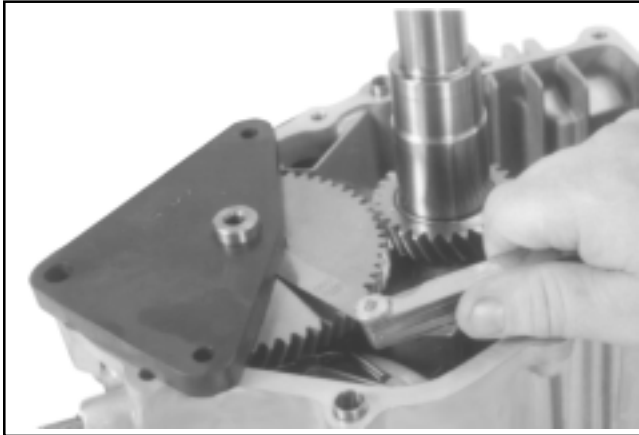

Figure 11-12. Checking Camshaft End Play.
2. Position the camshaft end play checking tool on the camshaft. See Figure 11-12.